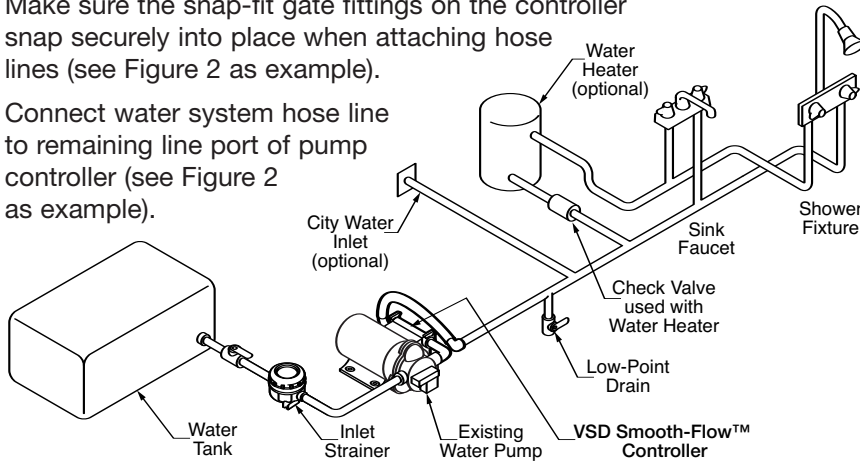

Figure 1
- Disconnect existing hose connection from pump outlet (see Figure 1).